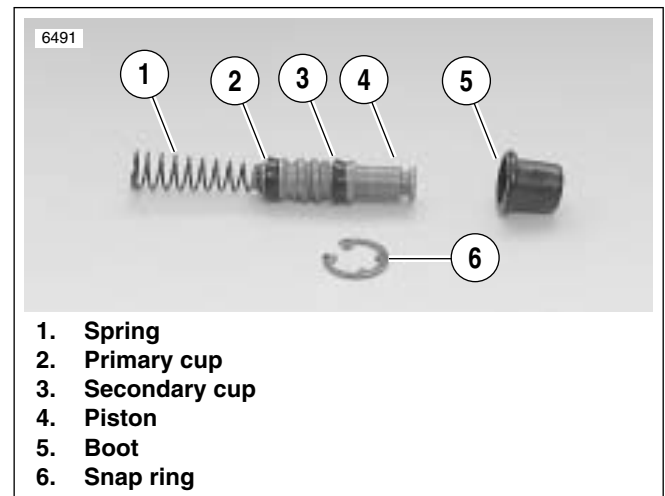

Figure 2-31. Piston Assembly
6. See Figure 2-31. Remove piston assembly (1-4) from front master cylinder.